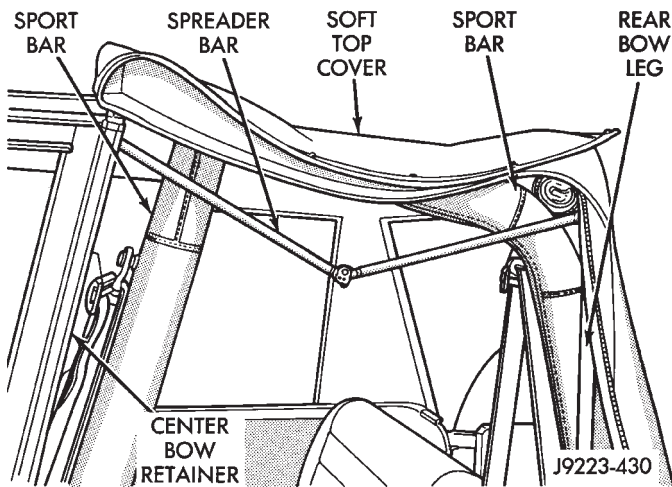

Fig. 111 Folding Top Cover
(13) Pull the top cover rearward from the windshield frame and fold it above the center bow (Fig. 111).